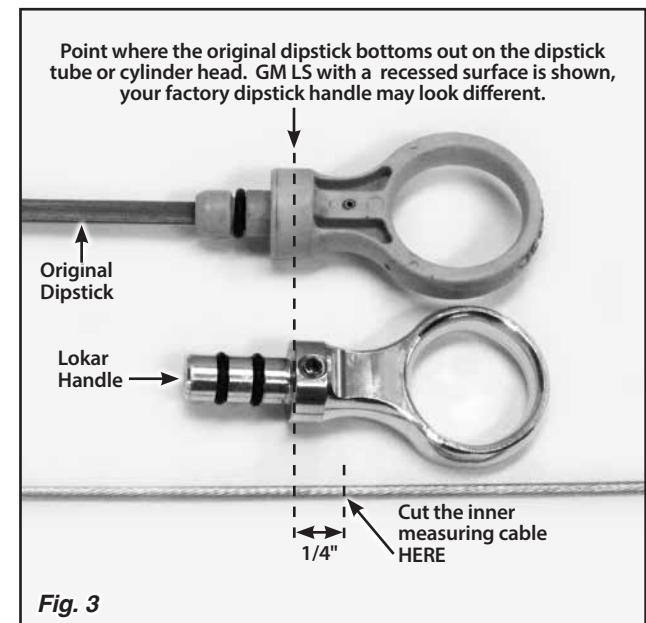

Fig. 3
**Step 5:** Place a mark on the inner measuring cable that aligns with the point on your existing dipstick handle that bottoms out on the dipstick tube or cylinder head. This surface is recessed into the handle on many dipsticks. Fig. 3